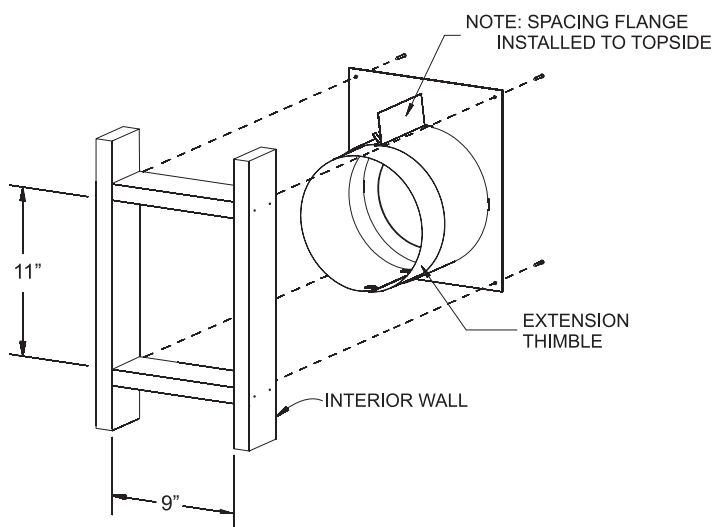

Figure 50
2. Cut hole in wall for wall thimble/firestop assembly (**Figure 50**) into your combustible wall. Note: On brick or block exterior wall a 7" (178 mm) diameter hole needs to be cut.
Measure the total wall thickness to determine whether or not the extension thimble is to be used. If the combustible wall depth is over 5 3/8" (137 mm), then the extension thimble should be used. **See Figure 50.**
3. Install the wall thimble assembly through the framed opening so the firestop plate is on the interior wall. **See Figure 50.** Telescope section should extend all the way through the exterior wall. Attach with four 10 x 1" screws.